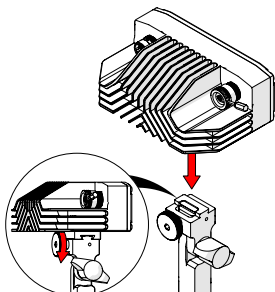

Fig. 19 - Attach camera and tighten knob
2. Attach the camera to the bracket and tighten the thumb screw (Fig. 19).